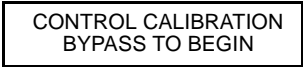

FIGURE 3-41
2. Scroll until control calibration screen (Figure 3-41) appears.
7. When calibration is complete, start screen in Figure 3-41 reappears.